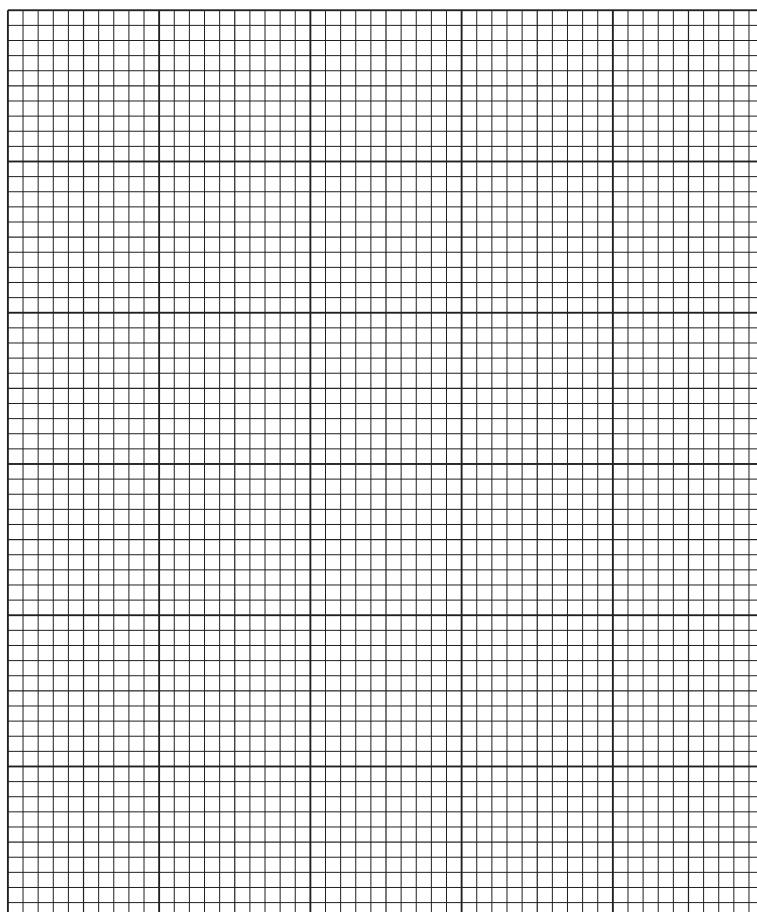

Fig. 1.3
- (i) Plot a graph of the data in Table 1.2 on the grid in Fig. 1.3.
- (iii) Describe the trend in the results shown by your graph plotted on Fig. 1.3.